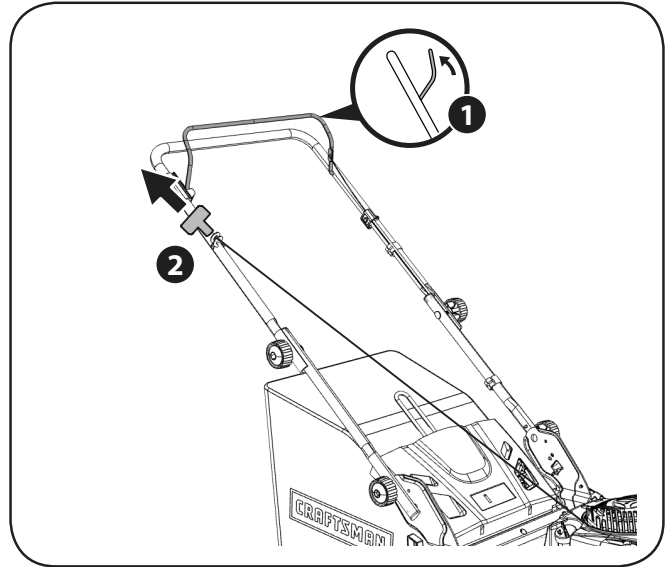

Figure 11
1. Standing behind the mower, pull the blade control handle back against the upper handle (Figure 11).
2. While holding the blade control against the upper handle, grasp the recoil starter handle and pull rope out with a rapid, continuous, full arm stroke (Figure 11). Keeping a firm grip on the starter handle, let the rope rewind slowly. Repeat until engine starts. Let the rope rewind each time slowly.
1. Hold the blade control against the upper handle (Figure 11).
2. Start the engine (Figure 11).